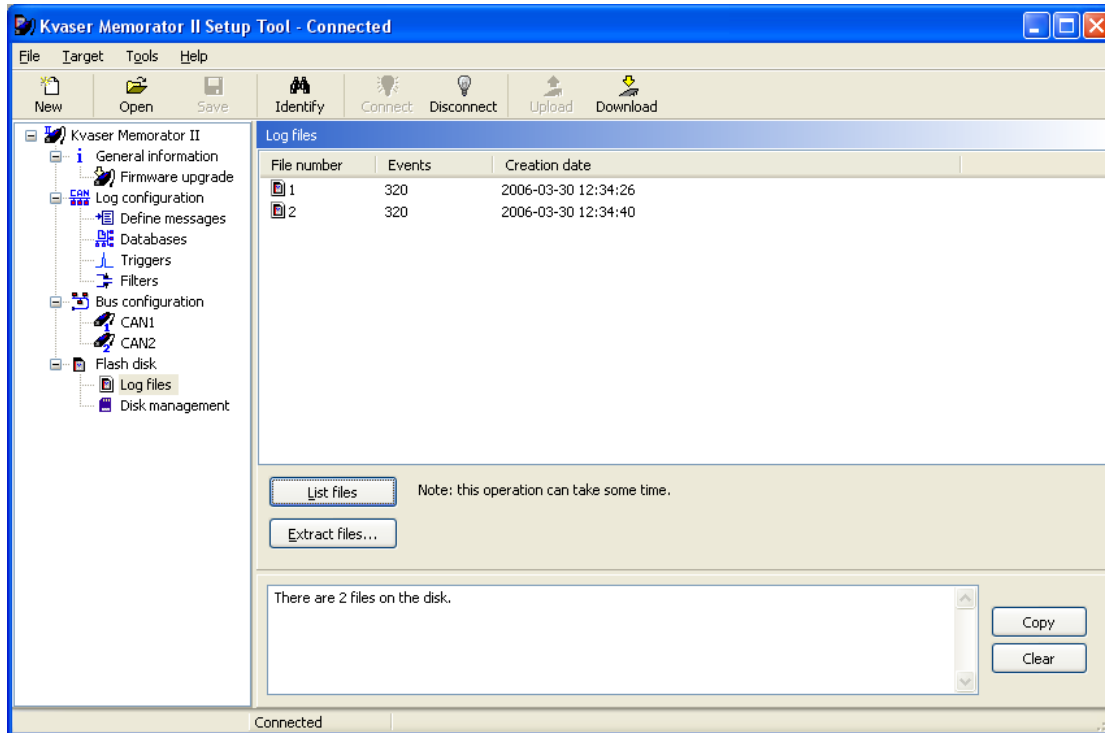

Figure 23. List files.
- You should now be able to see the two log files in the list of files as in the Figure 23.